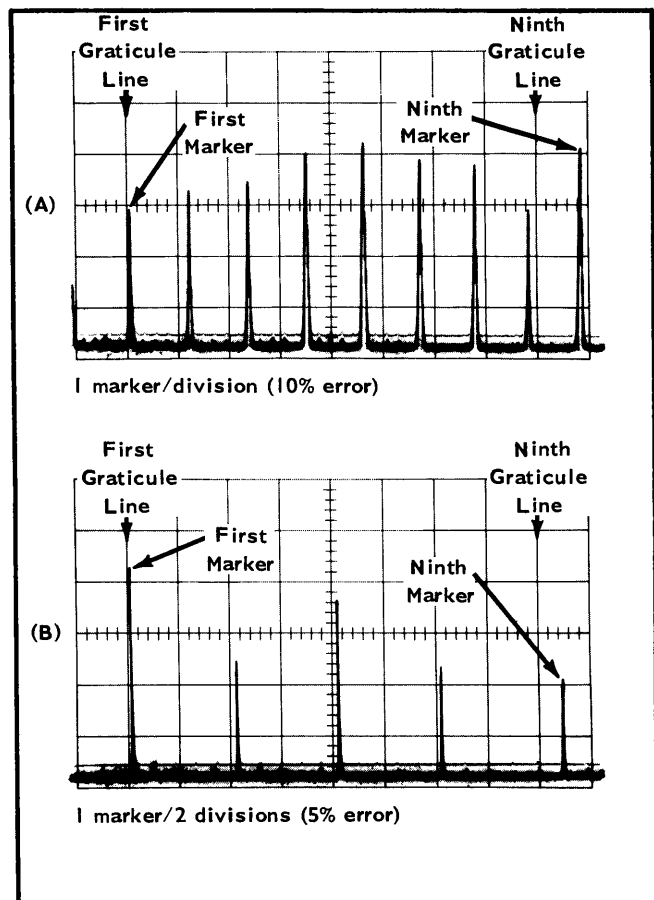

Fig. 5-4. Dispersion Accuracy displays.
- f. Use Table 5-3 to check the dispersion accuracy at each DISPERSION/CM setting. Position a modulation pip at the first graticule line and check the ninth pip displacement from the ninth graticule line for displays having 1 division/marker; if the display has 2 divisions/marker, check the fifth marker displacement from the ninth line (see Fig. 5-4).